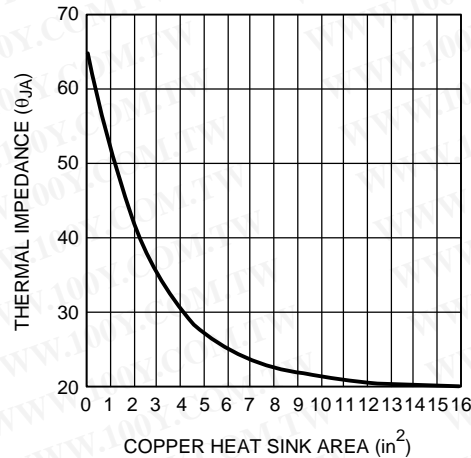

Figure 31. Thermal Resistance (Typ) for 5 Lead DDPAK/TO-263 Package Mounted on 1 Ounce of Copper
The DSDPAK/TO-263 package has excellent thermal characteristics. To minimize thermal impedance, its exposed die attach paddle should be soldered to a circuit board copper area for good heat dissipation. Figure 31 shows typical thermal resistance from junction to ambient as a function of the copper area. The DDPAK/TO-263's exposed die attach paddle is electrically connected to the V_{EE} power supply pin.
If a heat conductive copper plane has perfect thermal conduction (heat spreading) through the plane's total area, the temperature rise is inversely proportional to the total exposed area. PCB copper planes are, in that sense, an aid to convection. These planes, however, are not thick enough to ensure perfect heat conduction. Therefore, eventually a point of diminishing returns is reached where increasing copper area offers no additional heat conduction to the surrounding air. This is apparent in Figure 31. 2 oz copper boards will have decrease thermal resistance providing a better heat sink compared to 1oz. copper. Beyond 1oz or 2oz copper plane areas, external heatsinks are required. Ultimately, the 1oz copper area attains a nominal value of 20°C/W junction to ambient thermal resistance (θ_{JA}) under zero air flow.
5. θ_{JA} as a function of copper area in square inches is shown in Figure 31. Choose a copper area that will ensure the specified $T_{J(MAX)}$ for the calculated θ_{JA} . The maximum value of junction to ambient thermal resistance, θ_{JA} , is defined as:
4. Finally, choose the minimum value of copper area from **Figure 31** based on the value for θ_{JA} .
Examining the Copper Area vs. θ_{JA} plot (see **Figure 31**) indicates that a thermal resistance of 21.4°C/W is possible with a $8\text{--}10\text{in}^2$ plane of one layer of 1oz copper. Other solutions include using two layers of 1oz copper or the use of 2oz copper. Higher dissipation may require forced air flow. As a safety margin, an extra 15% heat sinking capability is recommended.